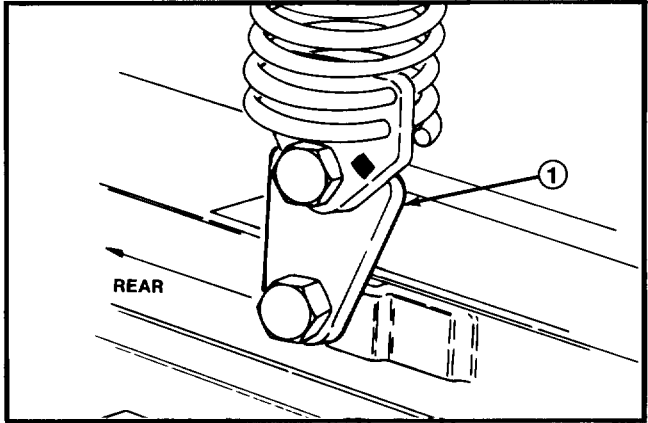

Figure 11
4. Mount bottom of knee link to deck bracket with a shoulder bolt, flatwasher and locknut. Flatwasher to be positioned between knee link and deck bracket (Fig. 11, 12).